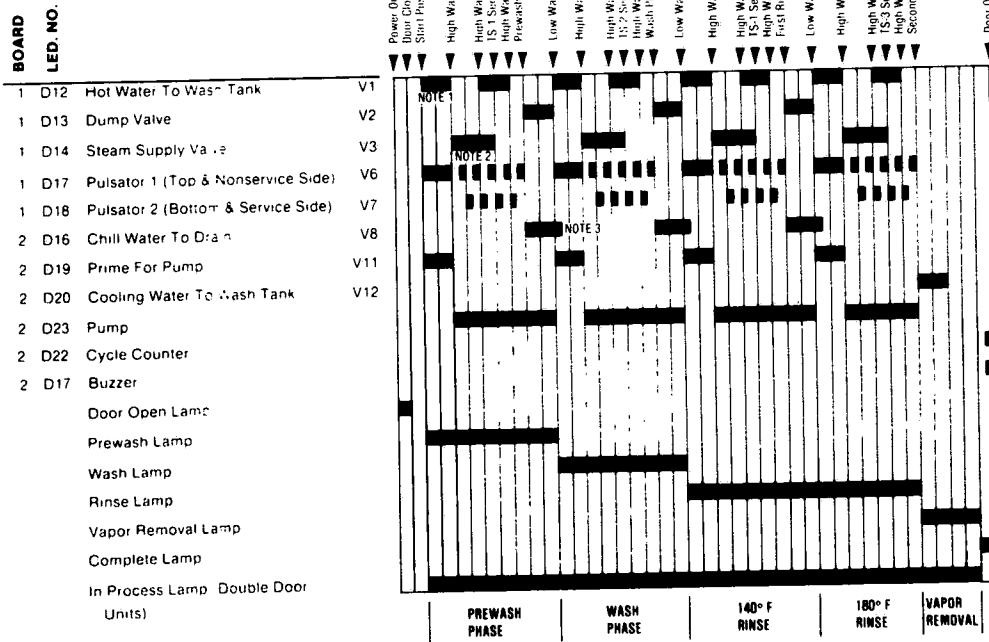

Figure 7-1. STANDARD CYCLE FOR CAGE AND RACK WASHER.
7.2 HOW TO USE THE CYCLE GRAPHS (FIGURES 7-1 THROUGH 7-7)
7.3.1 STANDARD CYCLE FOR CAGE AND RACK WASHER (FIGURE 7-1).